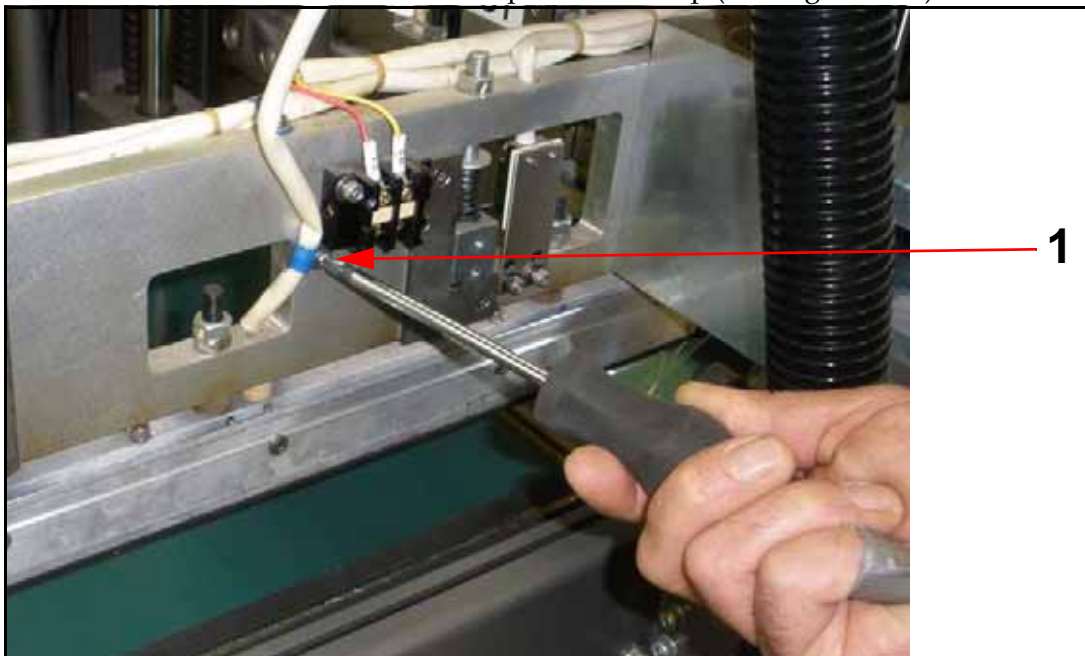

Figure 7-29. Thermocouple Cable Clamp
- 5 Unscrew thermocouple cable clamp (1 in Figure 7-29).